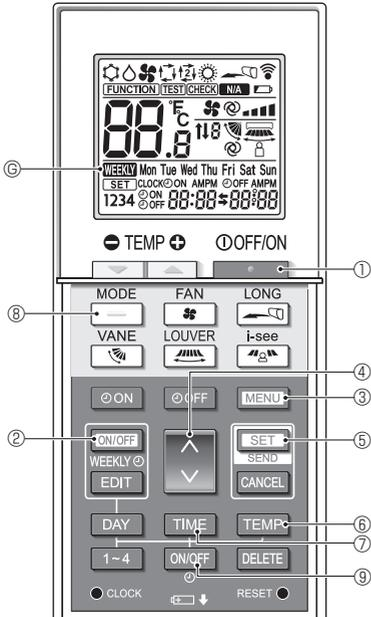
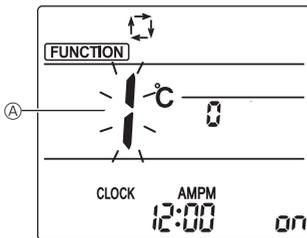
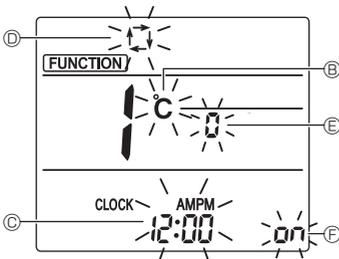

Fig. 5-1
Fig. 5-2
Fig. 5-3
5.1. Switching to the initial setting mode (Fig. 5-1, Fig. 5-2)
- Press the button ① to stop the air conditioner.
- If the weekly timer is enabled, press the button ② to disable the timer. (WEEKLY ③ disappears.)
- Press the button ③.
- The Function setting screen will be displayed and the function No. ④ will blink.
- Press the button ④ to change the function No.
- Check that function No. "1" is displayed, and then press the button ⑤.
5.2. Changing the temperature unit (Fig. 5-1, Fig. 5-3 Ⓑ)
- Press the button ⑥.
- Pressing the button ⑥ changes the temperature unit (°C / °F). (The factory setting is "°C".)
5.3. Changing the time display (Fig. 5-1, Fig. 5-3 Ⓒ)
- Press the button ⑦.
- Pressing the button ⑦ changes the time display (12:00 / 24:00). (The factory setting is "12-hour format".)
5.4. Changing the AUTO mode (Fig. 5-1, Fig. 5-3 Ⓓ)
- Press the button ⑧.
- Pressing the button ⑧ changes the Auto mode (S / D). (The factory setting is "Single set point".)
5.5. Changing the pair No. (Fig. 5-1, Fig.5-3 ㊦)
(Fig. 5-1, Fig. 5-3 ㉔)
(Fig. 5-1, Fig. 5-2)